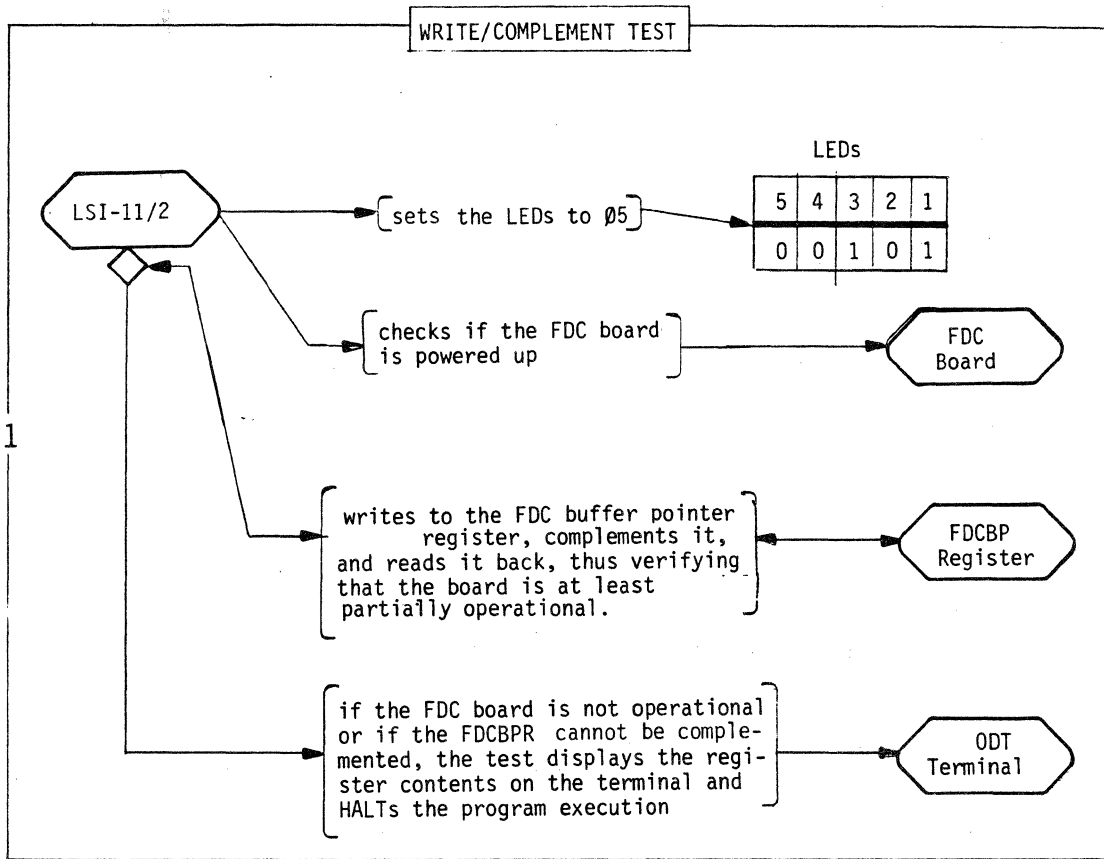

Fig. 3-19. Write/complement test.
The FDC test consists of two parts: the WRITE/COMPLEMENT test and the STATUS REGISTER test. Figures 3-19 and 3-20 show the basic test operations. If the FDC test fails at any time, LSI-11/2 processor searches for an active ODT terminal and displays the contents of these registers:
1. WRITE/COMPLEMENT (Fig. 3-19). The test sets the LEDs to 05 and checks whether the Flexible Disc Controller board is powered up. Next the controller writes a value into the Flexible Disc Controller buffer pointer register (FDCBPR). The stored value is then complemented and read back, thus verifying that the board is operational. If the LSI-11/2 processor cannot access the FDCBPR, the test assumes that the board is not operational. The test then searches for an active ODT terminal and displays the contents of the flexible disc registers. If the test can not find an ODT terminal it HALTs the LSI-11/2 processor.